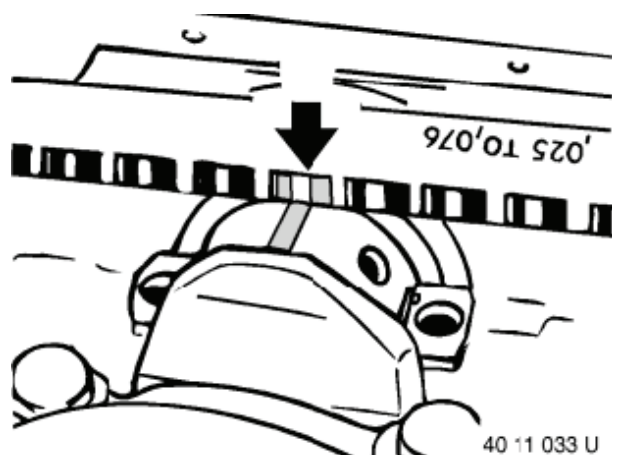

Figure 5-110
6. Compare the width of the flattened PLASTIGAGE to the graduation marks on the package (**Figure 5-110, (1)**). The mark that most closely matches the width of the flattened PLASTIGAGE will indicate the bearing oil clearance.